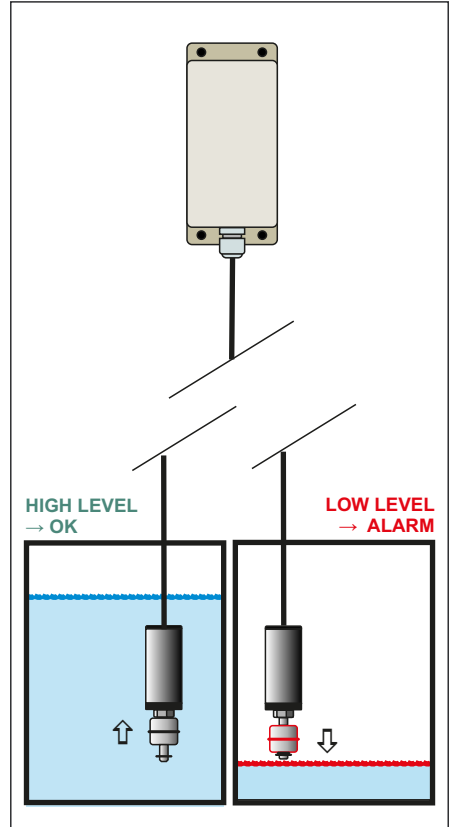
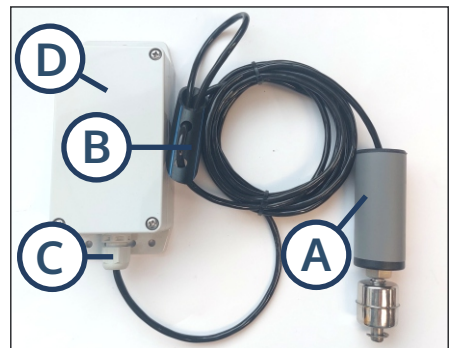

FIGURE 1
FIGURE 2
A. A transmitter mounted in the tank or pump house with a sensor monitoring the liquid level. (Figure 1)
B. A receiver unit installed at any suitable location in the building, emitting audible and visible alarms. (Figure 2 and 3)
The package includes a transmitter unit with a level sensor (Fig 1) and a receiver unit (Fig 2) with a DC adapter. Each receiver unit only reacts to alarms from its own transmitter unit.